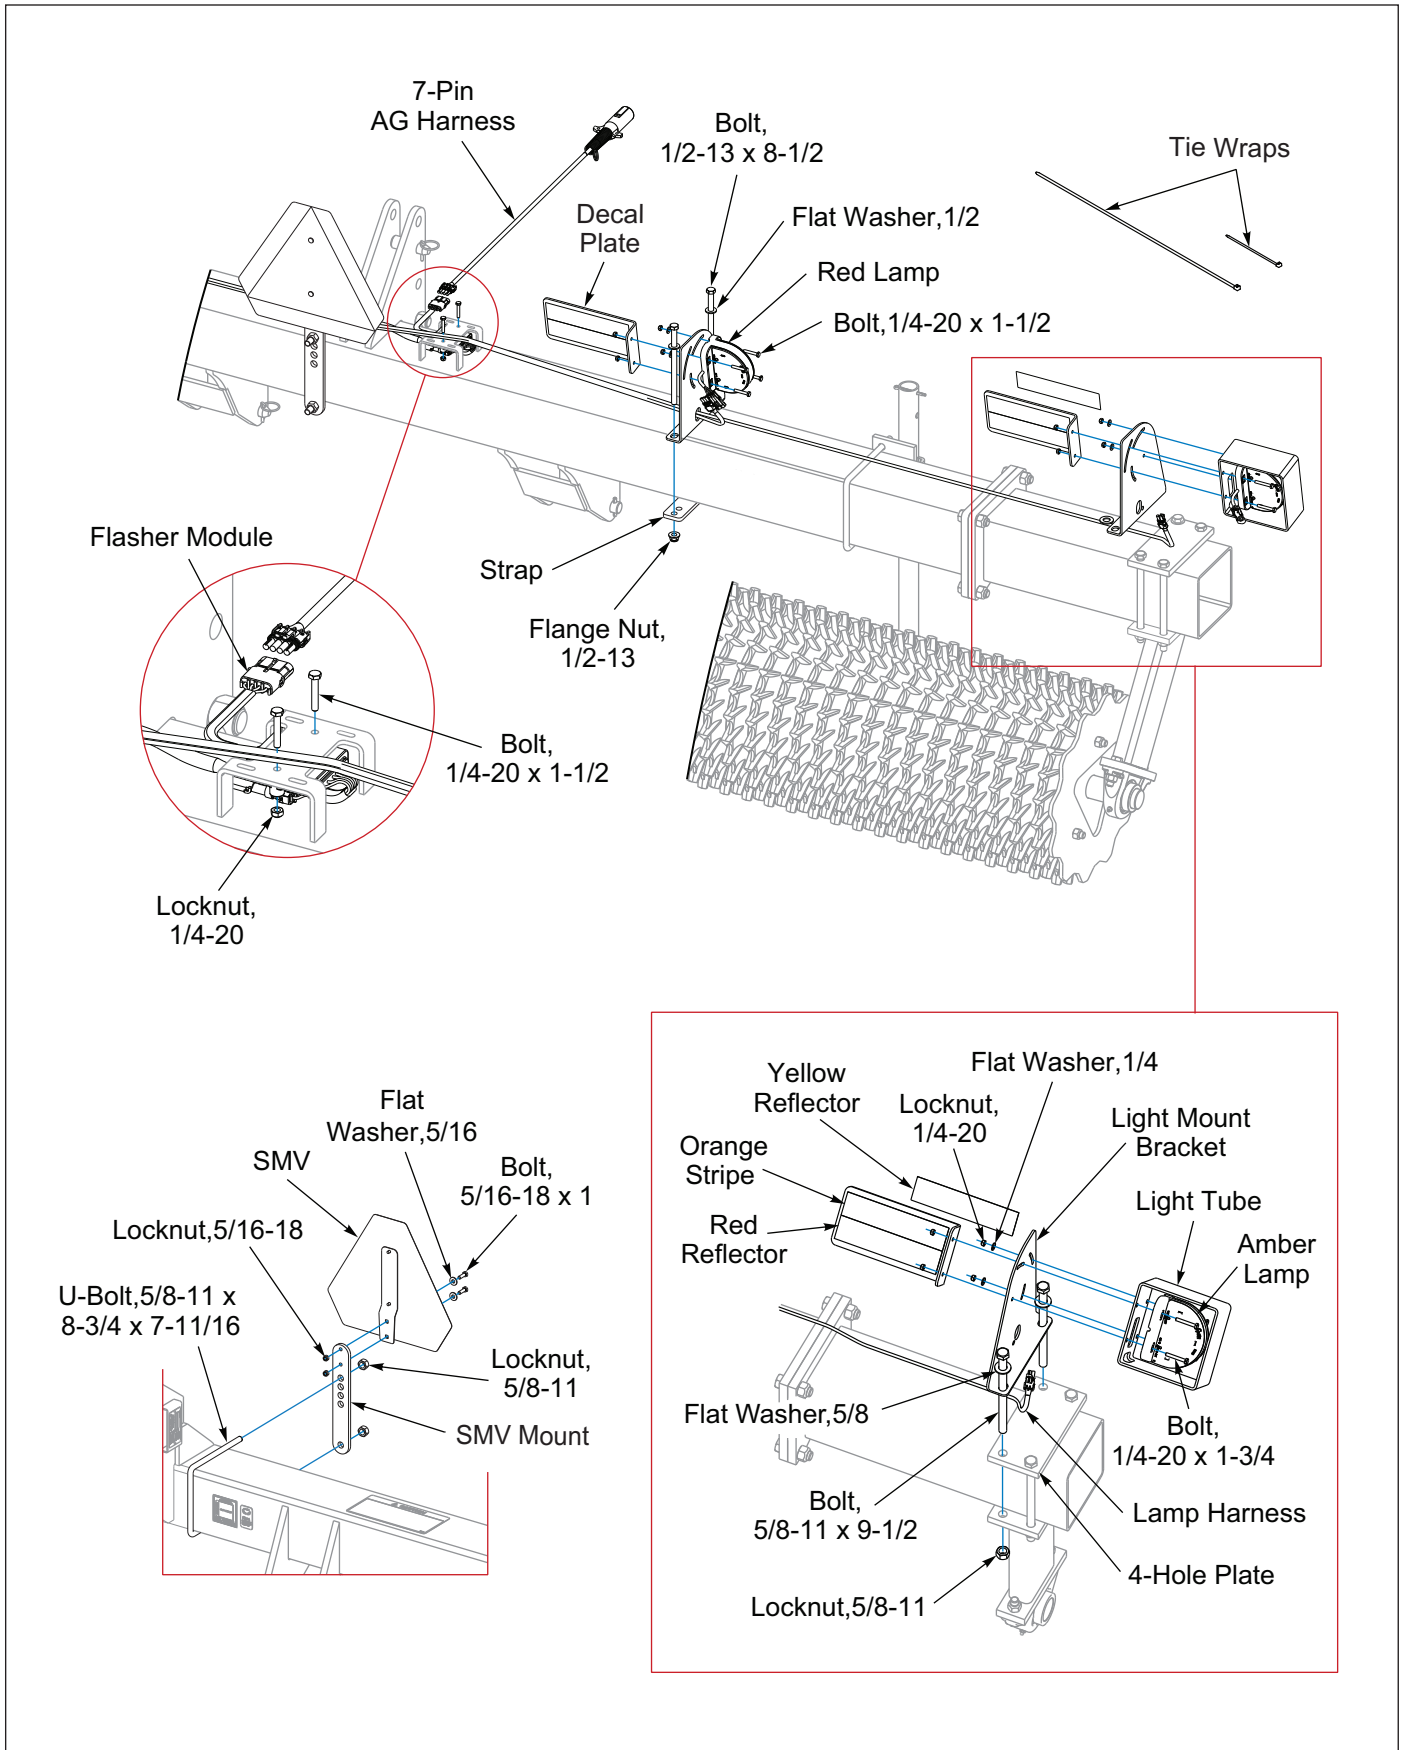

Figure 2-4: Warning Lamp Installation (PPF10-18)
1. Remove each Bearing Support, two inner 5/8-11 x 9-1/2 Bolts and Locknuts. Set the outer Light Mount Bracket on top of the 4-Hole Plate. Add Flat Washer under bolt head and re-install. **See Figure 2-4.**